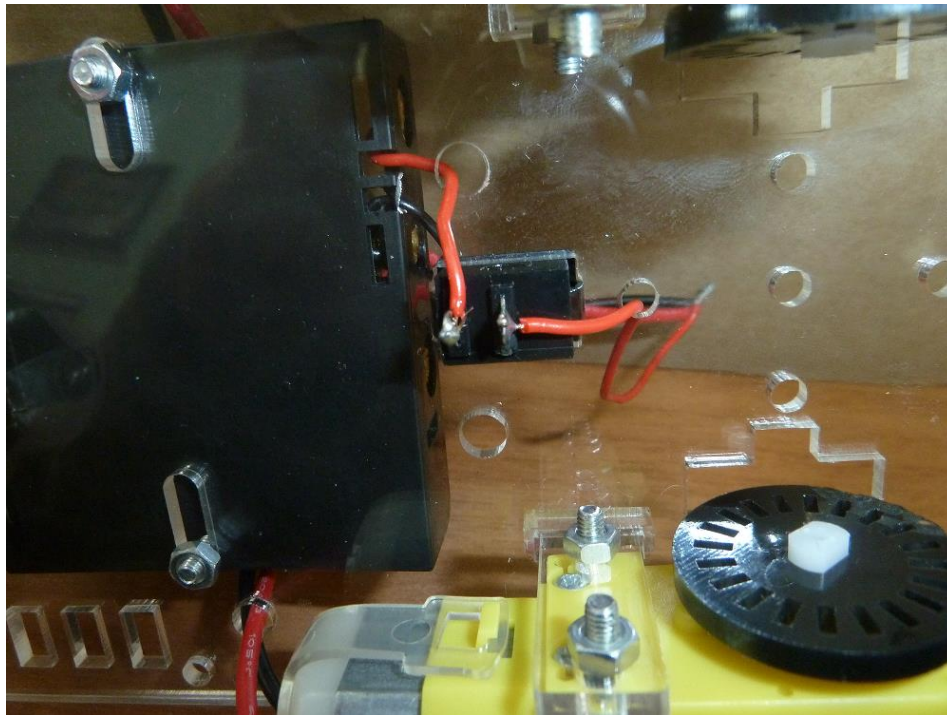

Figure 13
- Once the motor wires are soldered and the red wire of the battery holder is attached to the switch, have students slide all wires from the holes of the chassis so that they all meet on the upper side of the chassis (Figs. 13, 14).